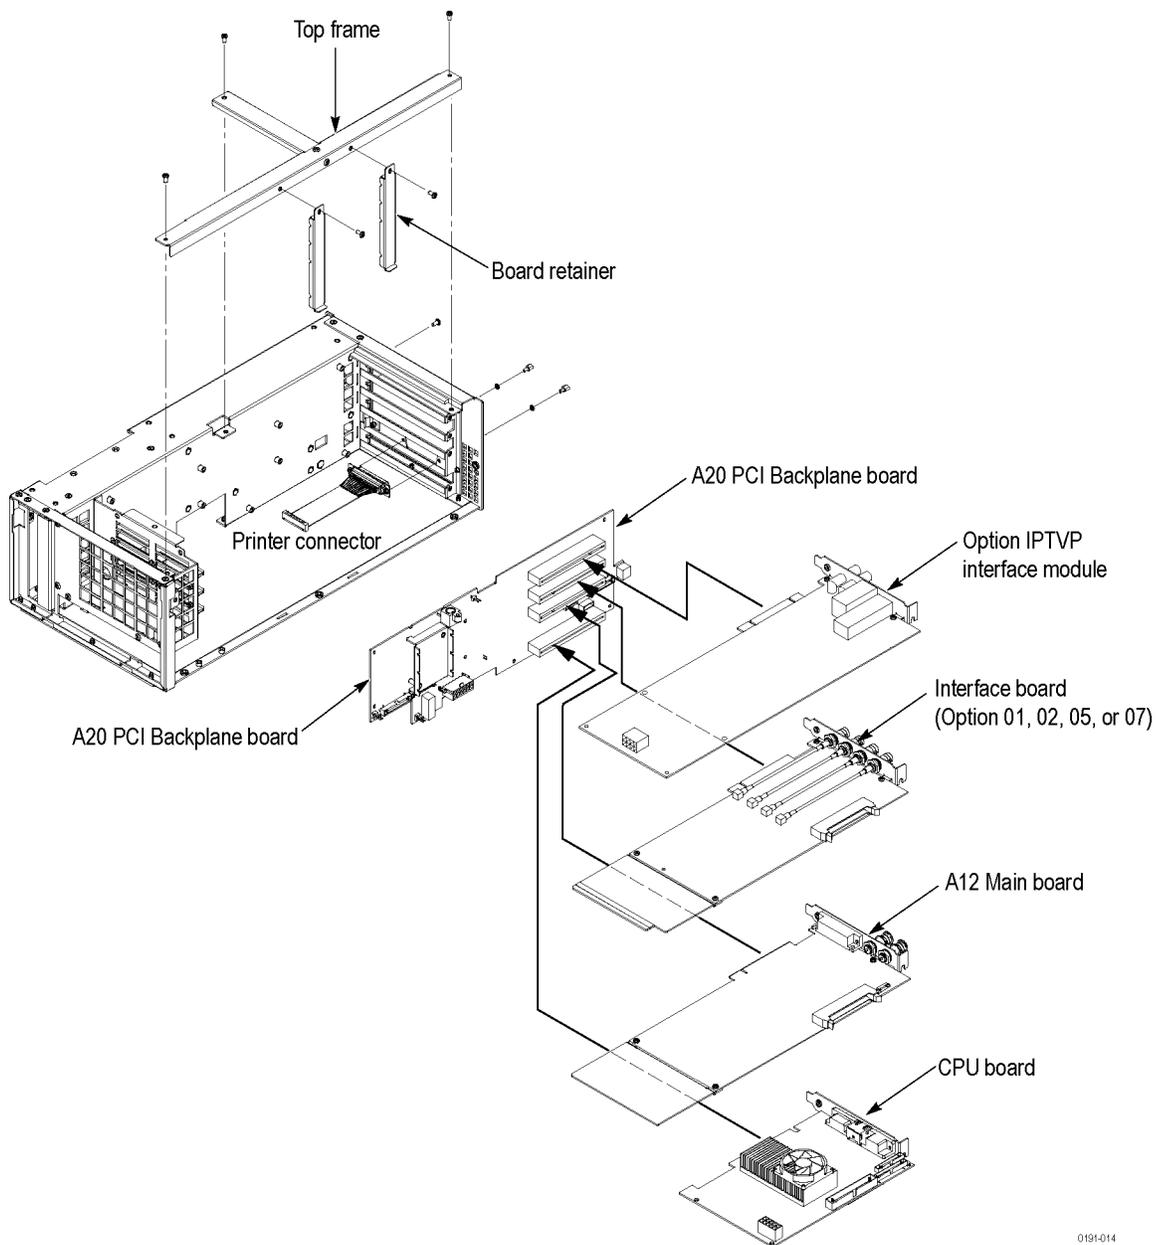

Figure 3-9: Interface modules, A12 Main board, CPU board, and A20 PCI Backplane board removal
3. Remove the board retainers: (See Figure 3-9.)
4. Remove the top frame: (See Figure 3-9.)
4. *Remove the interface module:* (See Figure 3-9.)
3. *Remove the A12 Main board:* (See Figure 3-9.)
3. *Remove the CPU board:* (See Figure 3-9.)
3. Remove the A20 PCI Backplane board: (See Figure 3-9.)